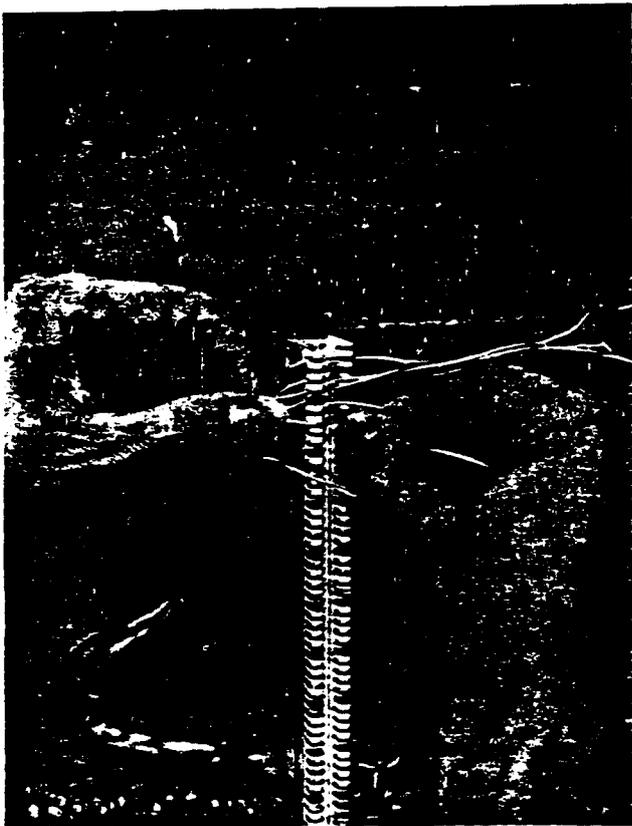

FIGURE 4
7.11 Dress individual conductors at right angles to the side of the 94 type connecting block leaving a minimum of (no less than) 1/2 inch slack in the length of the conductor before it enters the block, and a stub about 3 inches in length of the conductor after entering the block. Grasp the individual conductor between the thumb and forefinger of each hand and insert the conductor into the assigned slot. (See Figure 4)